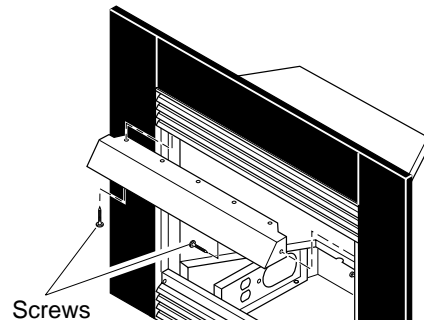

Figure 11 - Installing Hood to Firebox
Install hood to top of firebox as shown in Figure 11. Use 7 Phillips screws provided.
9. Install brass trim after final finishing and/or painting of wall (see Figure 11, page 8).